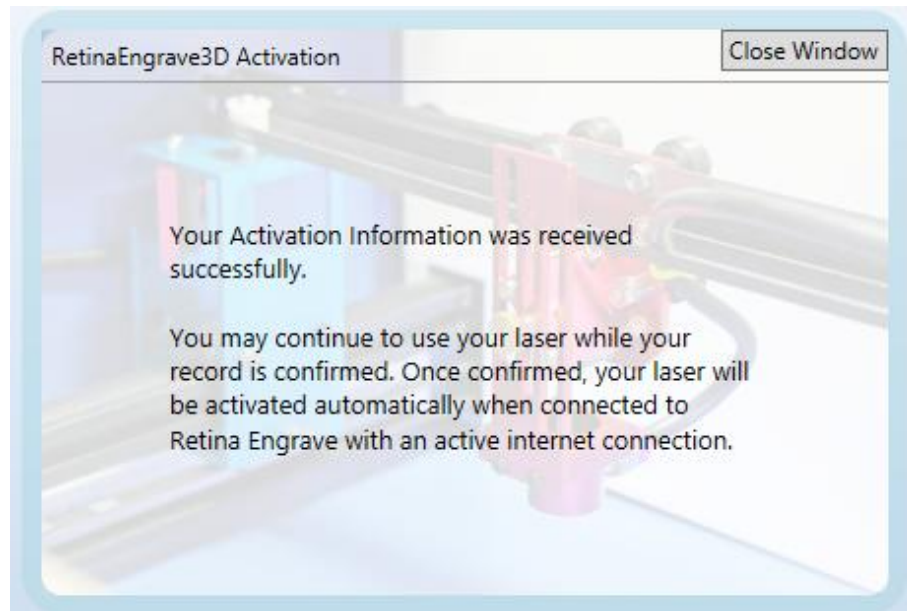

Figure 4 - Validation Information Receipt Acknowledgment
11. Once your information has been received, you will see the popup in Figure 4 .